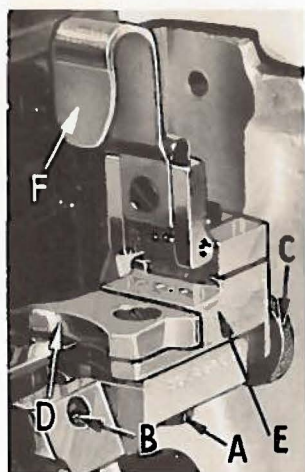

Fig. 15
Make sure that lock screw (A, Fig. 15) is loose, then proceed as follows:
Assemble the hemming guide support bracket onto the lower knife support bracket by means of screw (B, Fig. 15). With the knurled adjusting screw (C), set the edge guide (D) so that the left side of its tip is even with and parallel to the right side of the right feed slot in the throat plate.
When the edge guide tip is in this position, the front or leading edge should be slightly to the right of parallel. This adjustment can be made by positioning the stop screw (A, Fig. 16) located towards the front of the hinge block and edge guide support bracket (E, Fig. 15).
Under normal conditions, the edge guide is spring loaded to compensate for the differences in the material thickness. For example, as in going over seams. The amount of movement and the pressure applied to the edge guide tip can be set by removing lock screw (B, Fig. 16) and adjusting the screw which presses against the spring and pin, located in the hinge block and edge guide support bracket (E, Fig. 15). Replace lock screw and tighten securely.
Adjust the edge guide (D, Fig. 15) by turning the knurled adjusting screw (C) so that the stitches are located in the folded edge, yet do not show on the face of the fabric. At this point re-tighten screw (A, Fig. 15) securely.
Adjust the overhanging guide (F, Fig. 15) so that the space between its guiding edge and the edge guide (D) corresponds with the thickness of the material to be hemmed. Loosen set screw (C, Fig. 16) and holding screw (D), now move the hinge block (E) to obtain the proper distance between the edge guide and the overhanging guide. Re-tighten screws (C) and (D). Remove lock screw (F) and adjust stop screw that is in front of lock screw, so that the tip of the overhanging guide is located at the center of the edge guide vertically. Replace lock screw (F) and tighten against stop screw.